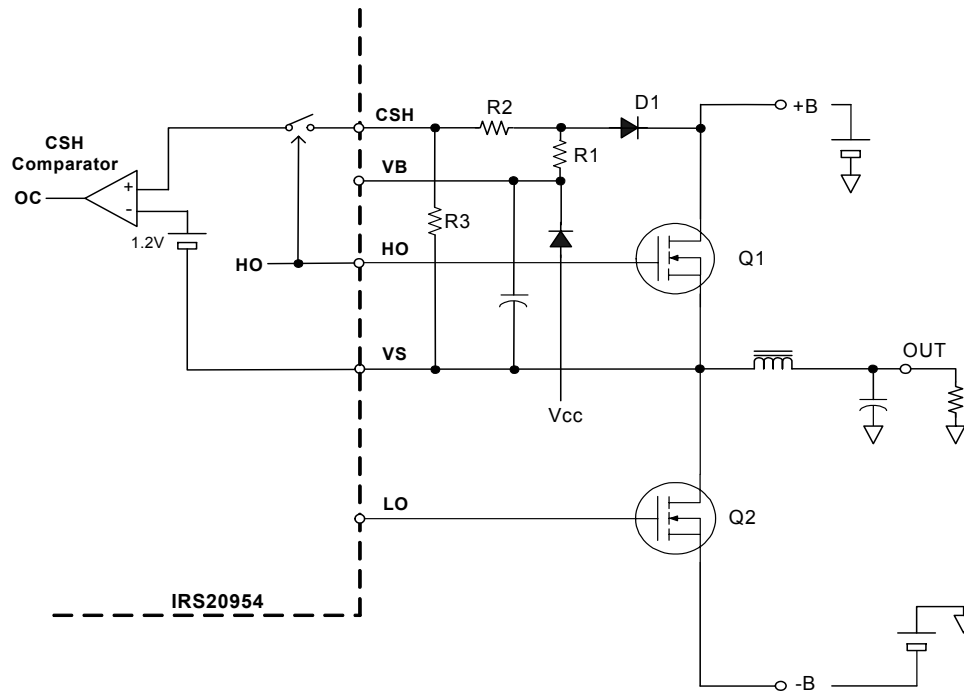

Figure 14: Programming High Side Over-Current Threshold
**With the configuration in Fig. 14, the voltage in CSH is:**
Fig. 14 demonstrates the typical peripheral circuit of high side current sensing. For example, the over-current protection level is set to trip at 30 A with a MOSFET with  $R_{DS(ON)}$  of 100 m $\Omega$ , the component values of R2 and R3 are calculated as: